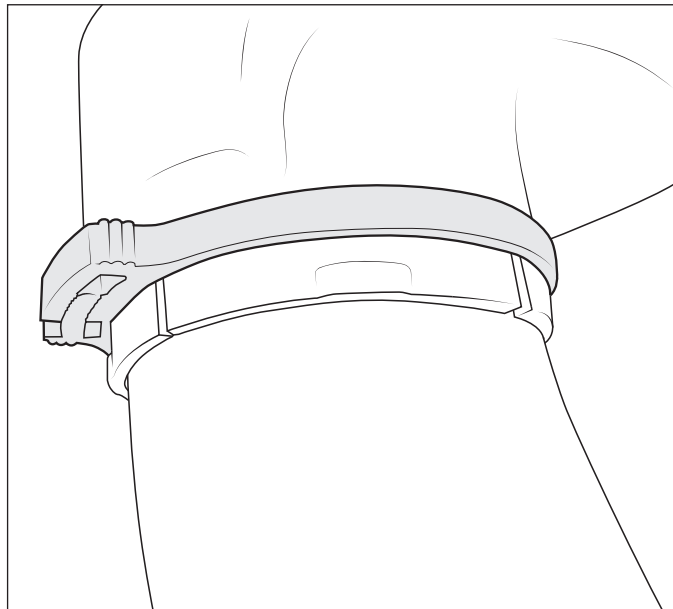

Figure 14
3. Install air ram so it is forward facing with provided clamp and tighten until snug enough to prevent lifting or twisting of the air ram (fig. 14). Depending on the clamp provided, channel locks, large pliers or a 5/16th wrench will be needed to get the clamp tight enough for good retention.